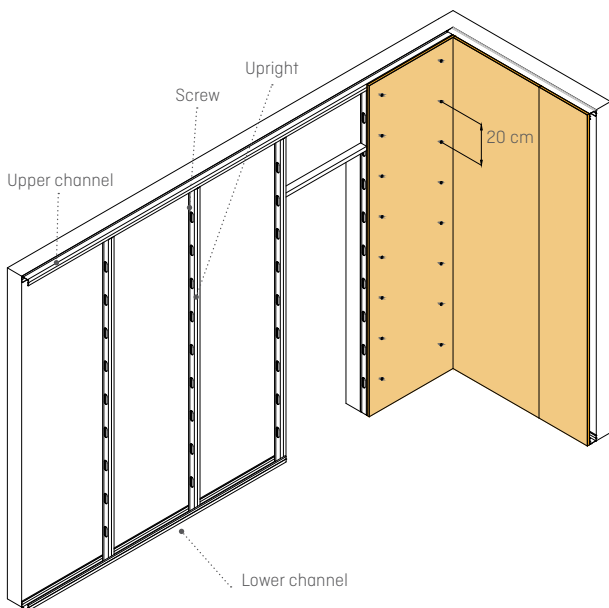

FIGURE 25: Self-supporting finish diagram
1. Install the upper and lower channels, fixing them to the ceiling and floor with screws and ensuring they are straight. (fig. 25)